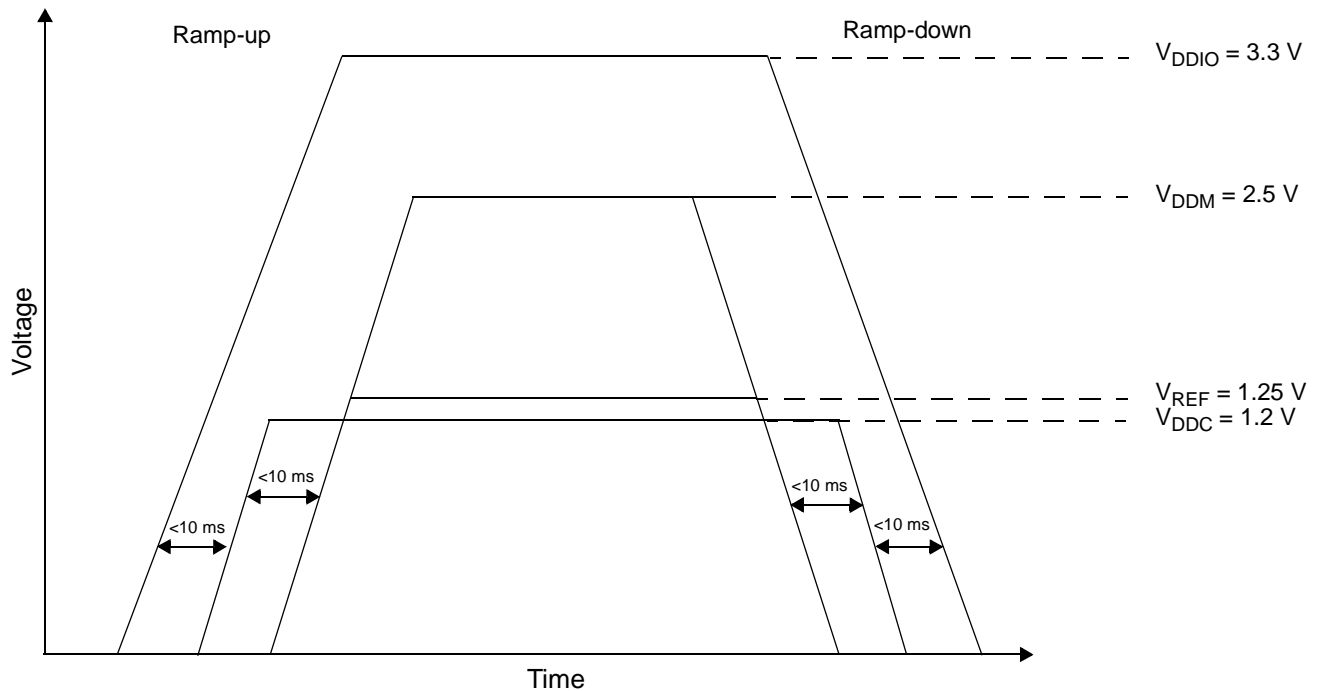

Figure 28. Voltage Sequencing Case 3
- Refer to **Figure 28** for relative timing for Case 3.